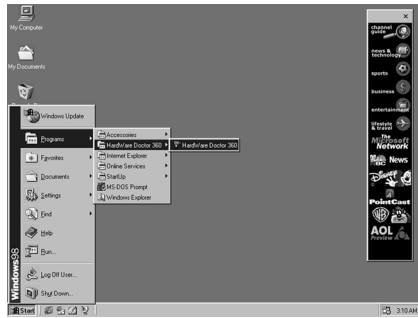

Figure 6
- The “DELTA HardWare Doctor 3.60” option will be added to the “Program” directory. Click on the “HardWare Doctor 360” icon to access the program, the screen will appear Figure 6.